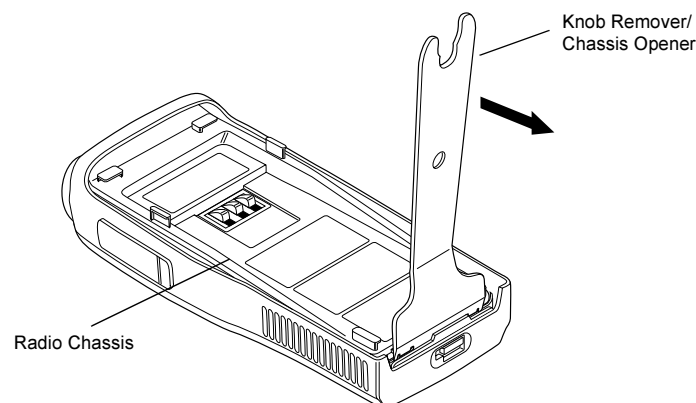

Figure 2-3 Chassis Removal
5. Separate the chassis from the front housing assembly by using the knob remover/chassis opener tool. Place the broad side of the opener into the slots located at the base of the radio (Figure 2.3). Press the handle of the opener downwards. This pressing action forces the thin inner plastic wall toward the base of the radio, releasing the two chassis base tabs.